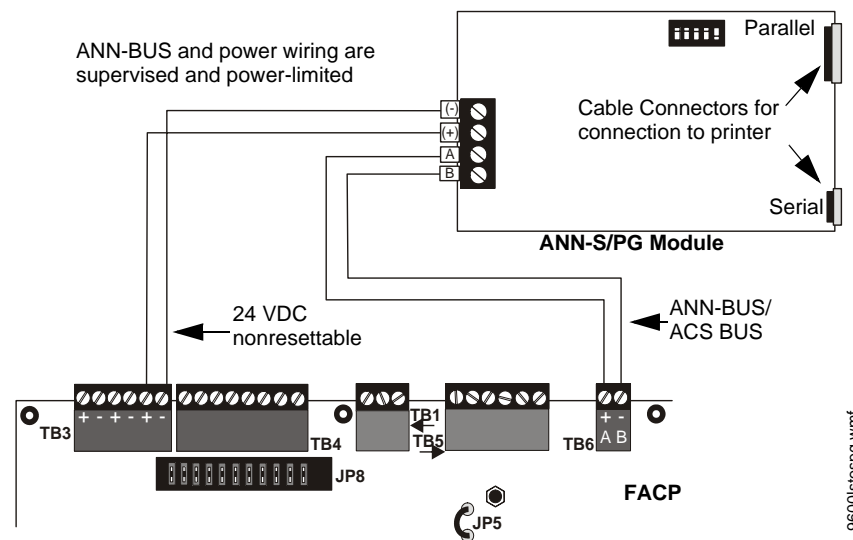

Figure 1.7 ANN-S/PG Connection to FACP
2. Connect the ANN-S/PG to the FACP as illustrated in Figure 1.7.
5. Connect a printer to the ANN-S/PG Parallel or Serial connectors (refer to Figure 1.7). Only one printer can be connected.